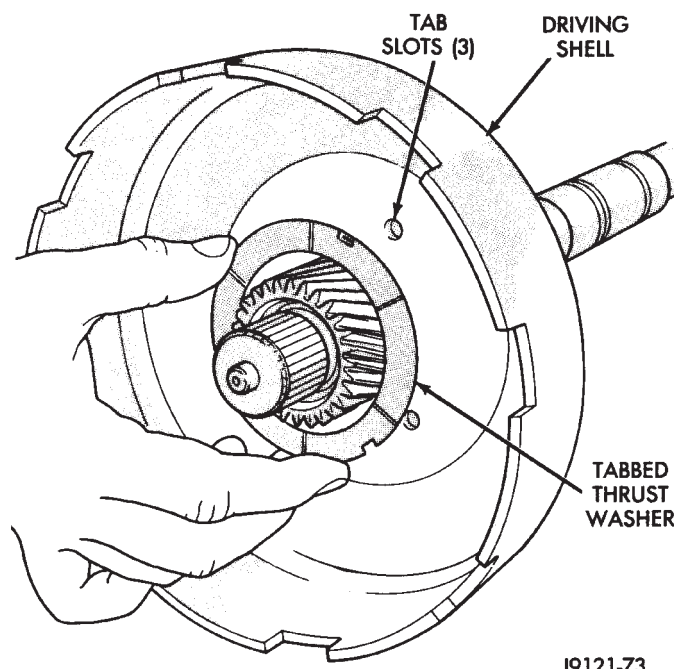

Fig. 84 Installing Driving Shell Thrust Washer—46RH
(9) Install tabbed thrust washer in driving shell (Fig. 84). be sure washer tabs are seated in tab slots of driving shell. Use extra petroleum jelly to hold washer in place if desired.